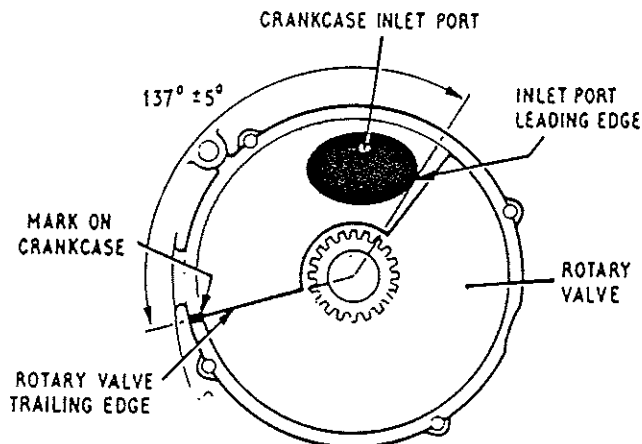

FIG. 1.5 - ROTARY VALVE TIMING (A)
- a. Using a degree wheel, mark  $137^\circ$  after the opening of the inlet port (anti-clockwise). See Fig. 1.5.